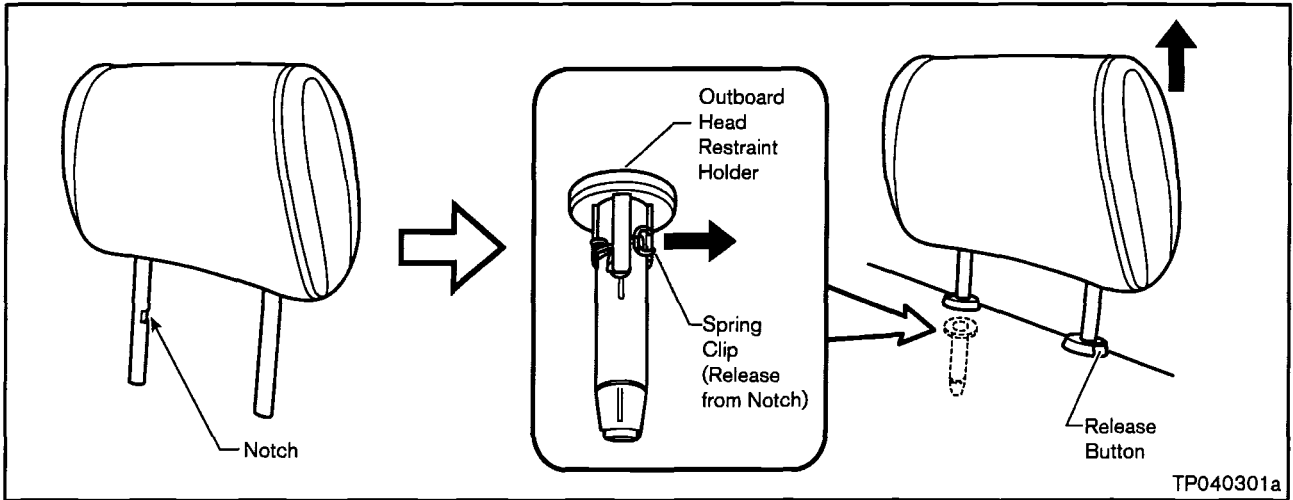

Figure 11
- b. Use a Plastic Pry Tool to release (move towards the middle of the seat) the Spring Clip from the Notch on the outboard Head Restraint Holder (see Figure 11).